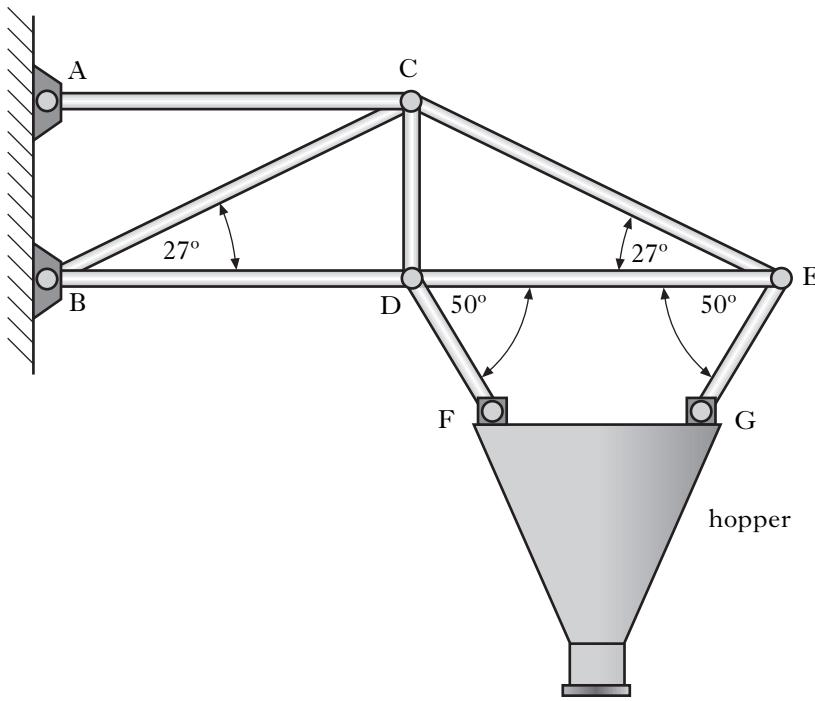

Figure Q11(a)
11. Figure Q11(a) shows a structure supporting a hopper used for filling lorries with concrete.